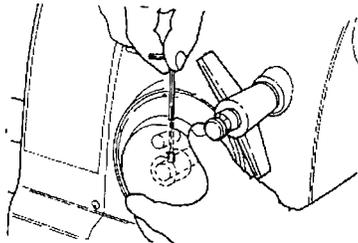

Figure D-11
- d. Remove the speed control handle. With the access hole in the side of the speed control handle facing up, insert a  $3/32"$  Allen wrench or a slotted screwdriver in the hole and loosen the setscrew holding the handle to the worm control shaft, as seen in Figure D-11.